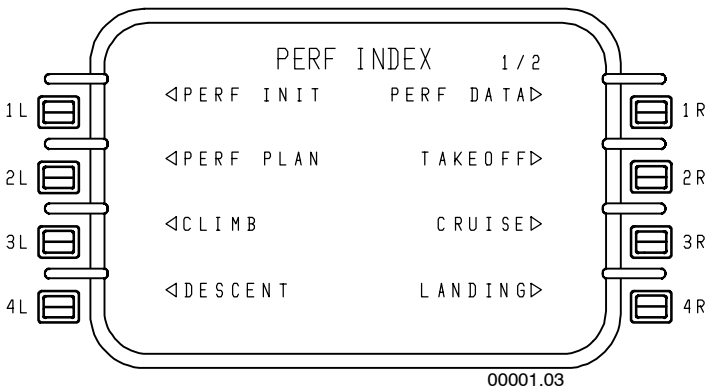

Figure 3-2
- **Performance (PERF) Key** - Pressing the PERF function key displays page 1 of the performance index. The pilot can select any of the index functions by pressing the respective line select key. These are shown in Figures 3-2 and 3-3. Refer to Performance Index, page 5-2, for additional details.